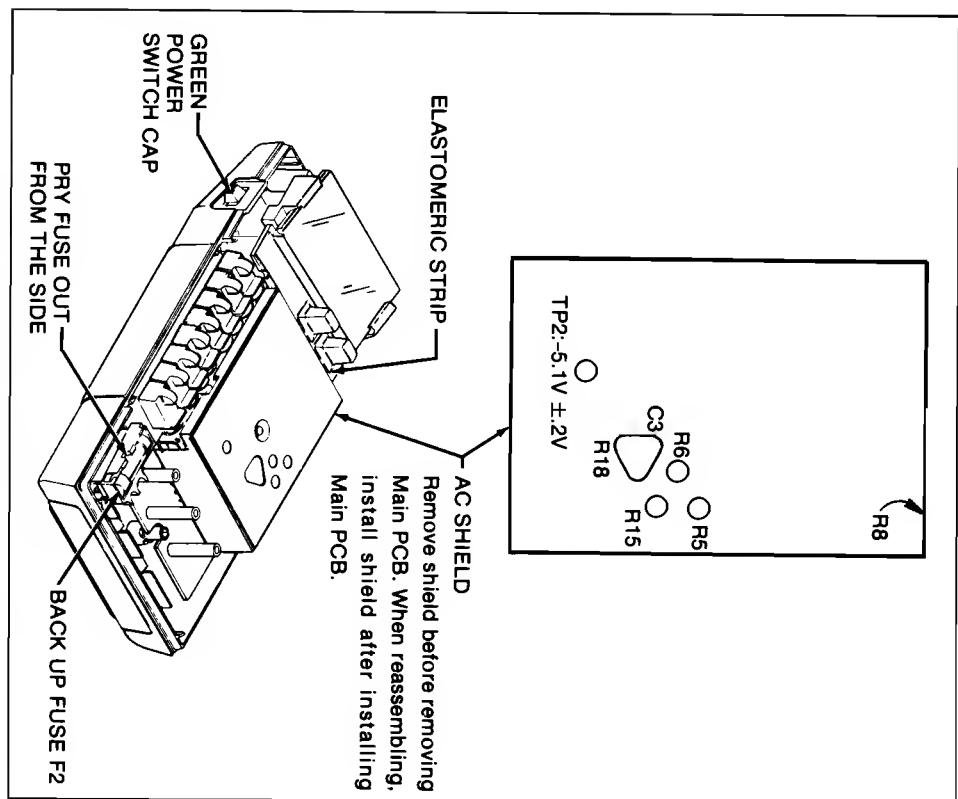

Figure 4-1. Calibration and Backup Fuse (F2) Access
The function buttons below the display are part of a single elastomeric strip (Figure 4-1) that is held in place by the top cover. When the top cover is removed, the elastomeric strip will be loose.
- Turn the instrument face-up and grasp the top cover at both sides of the input connectors. Then pull the top cover from the unit. The backup fuse and the calibration adjustments are now accessible (Figure 4-1).
2. Use a flat-tipped screwdriver to pry the fuse out of its fuse holder. Pry the fuse from the side as indicated in Figure 4-1.